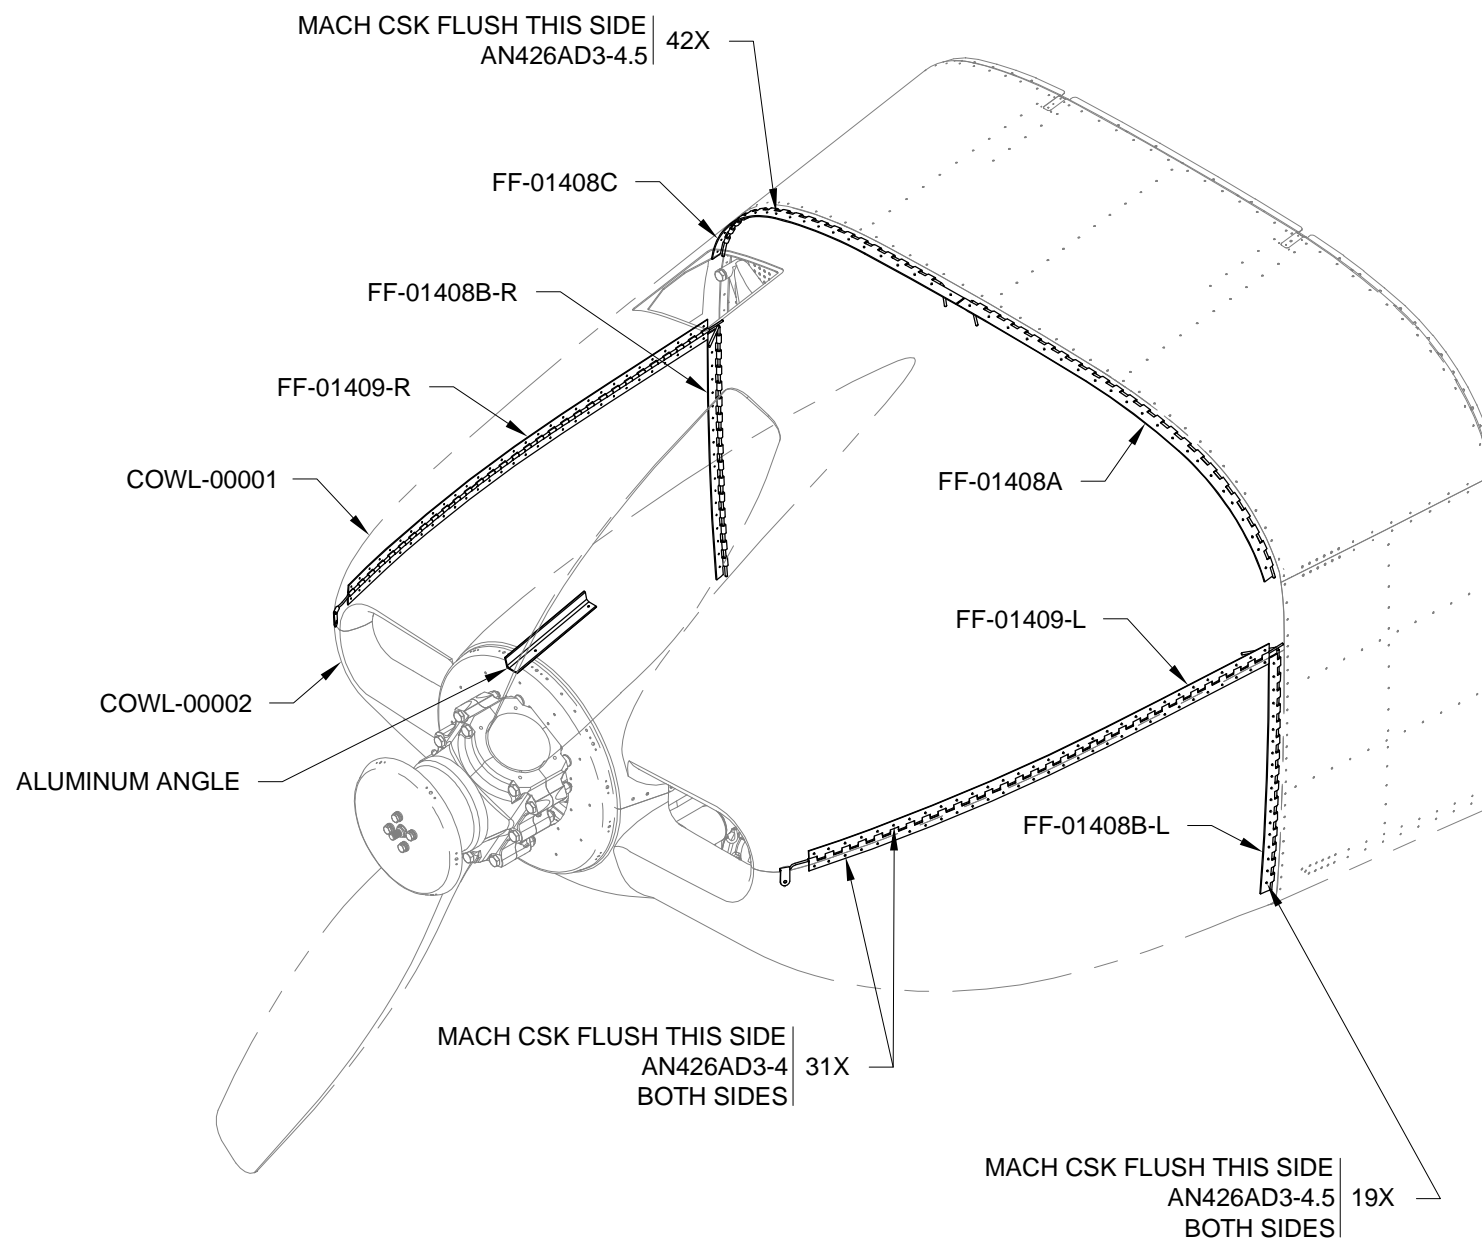

FIGURE 1: RIVET HINGES
Step 7: Rivet the remaining countersunk holes in the FF-01408A, B-L & -R, C and FF-01409-L & -R Cowl Attach Piano Hinges to the top cowl and bottom cowl as shown in Figure 1.
Step 1: Trim the COWL-00003-L Inlet Ramp to the edge scribe lines. **DO NOT** trim to the positioning scribe line. See Figure 1.